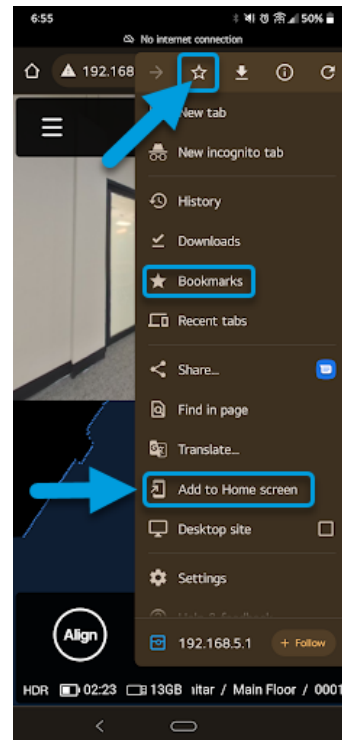

Figure 9 - Google Chrome options (on Android)
5. Once the Survey web app loads, add it to the home screen of your smart device (see figure 9) to enable the full screen web app experience. You can also save it as a bookmark.